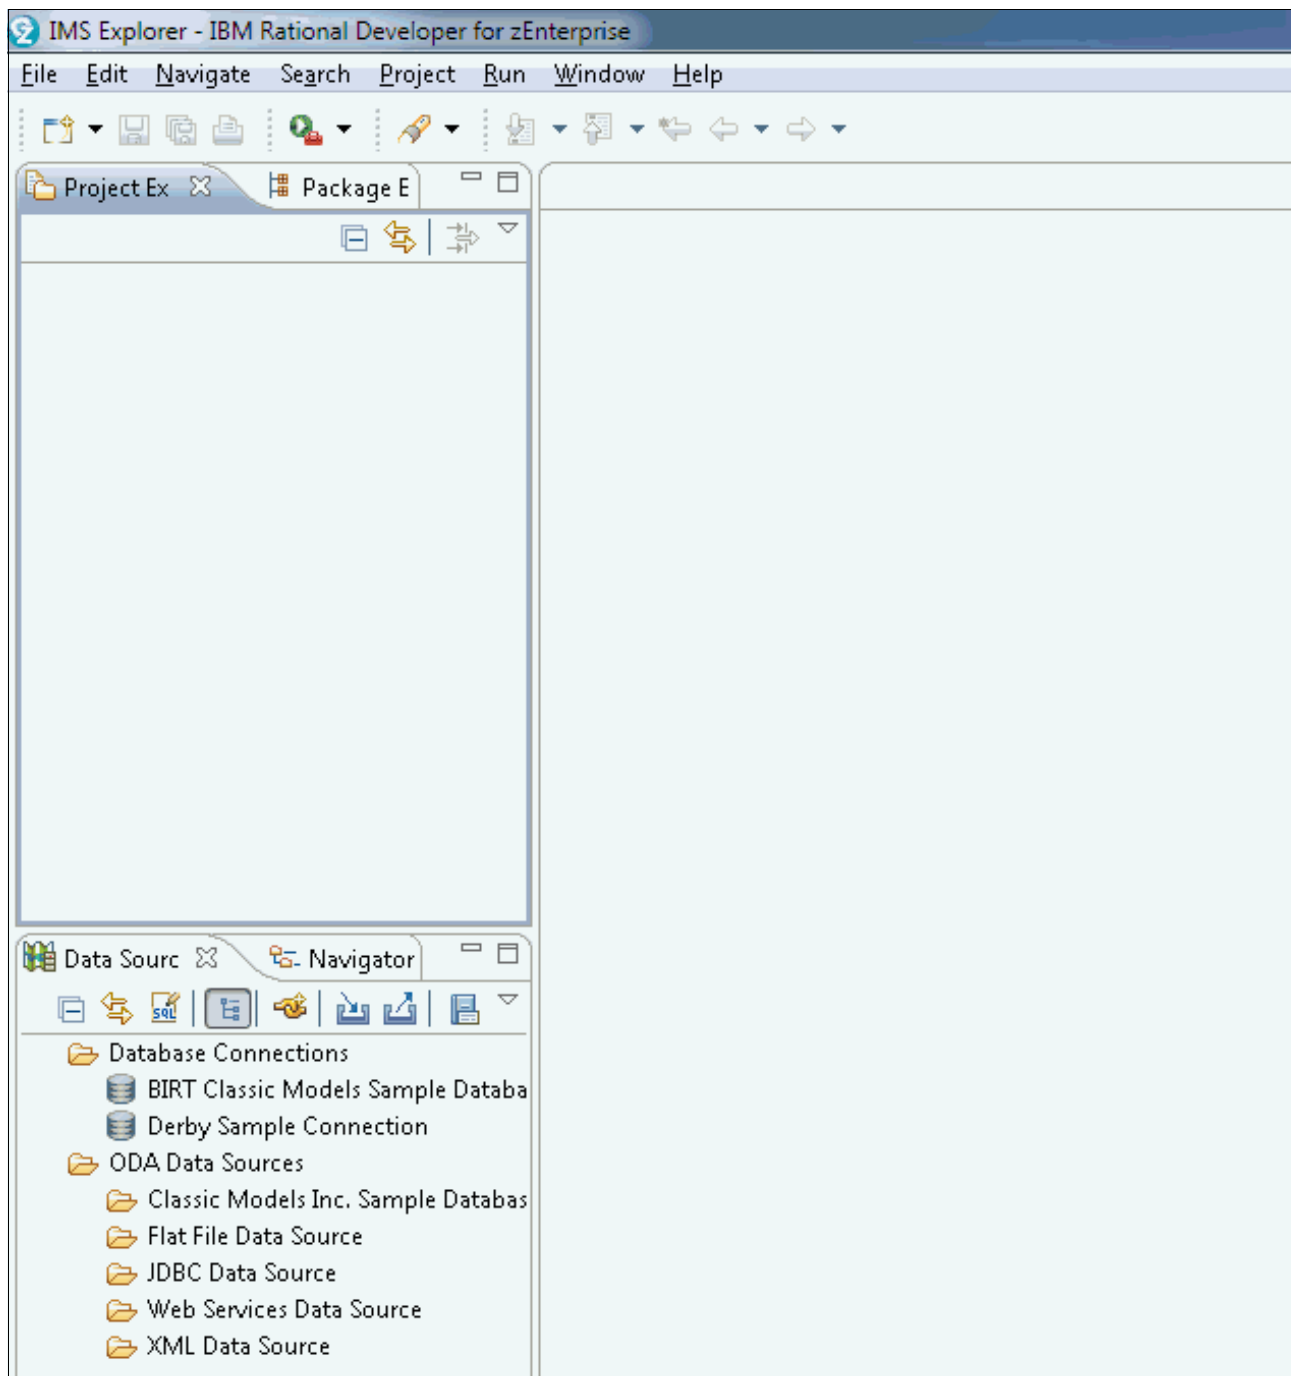

Figure 8-14 IMS Explorer perspective in Rational Developer for zEnterprise
1. Run Rational Developer for zEnterprise (or Rational Developer for zSeries), and open the IMS Explorer perspective, as shown in Figure 8-14.